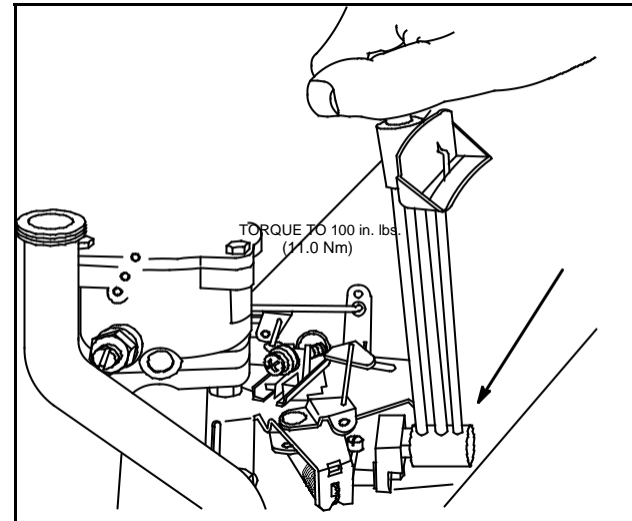

Fig. 27 – Static Governor Adjustment
2. Rotate governor shaft counter-clockwise as far as it will go, Fig. 27.